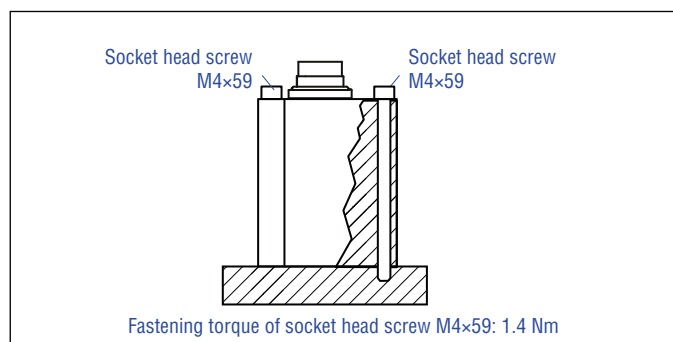

Fig. 15: Mounting with socket head screws M4×59
- Mount the sensor electronics housing by means of 3 non-magnetic socket head screws M4×59. Fastening torque: 1.4 Nm (Fig. 15). Secure the screws, e.g. using Loctite 243, before re-installing.